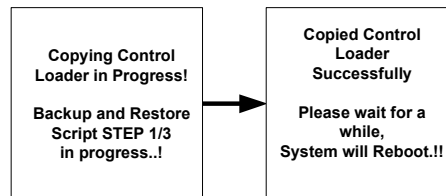

Figure 1-3 Control boot loader files copied screen
9. If inverter has old control boot loader, new control boot loader files will be upgraded and the LCD should display message as shown in Figure 1-3 on page 1-5.